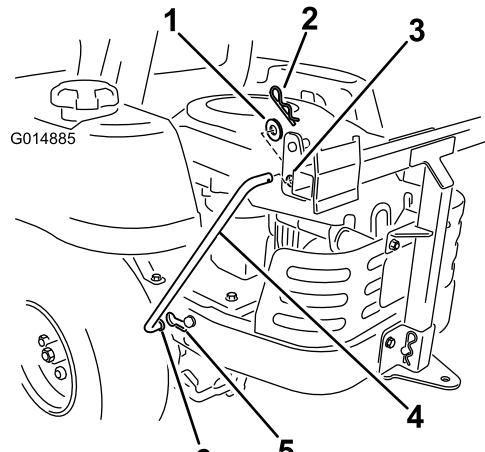

Figure 15
- 5. Install two support rods, one to each side of the bagger frame. Locate the existing keyed slot in the machine frame and install the bent, flared end of the rod into that slot (Figure 15). Move the rod rearward to seat it in the frame.
- 6. Insert the bent ends of the rod into the bagger frame as shown in Figure 15. Secure the end of the rod with a washer and hair pin.